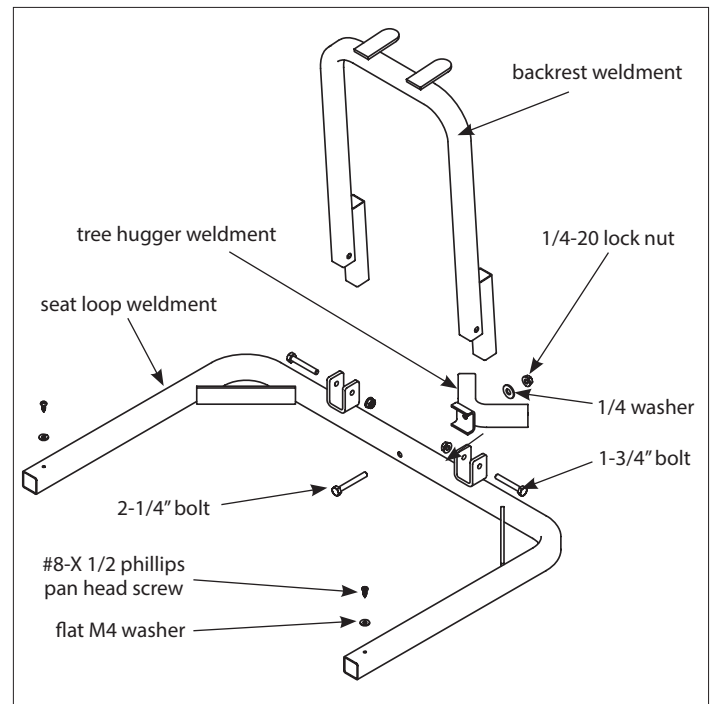

Figure 1
1. Attach the tree hugger weldment (48078) to the seat frame weldment using (1) provided 1/4-20 x 2-1/4" bolt, locknut and metal washer. **SEE FIGURE 1. TIGHTEN SECURELY.**
2. Attach the backrest weldment (48075) to the seat frame weldment (48081) using (2) provided 1/4-20 x 1-3/4" bolts and locknuts. **SEE FIGURE 1. TIGHTEN SECURELY!**
NOTE: Pay special attention to orientation of both parts. SEE FIGURE 1.